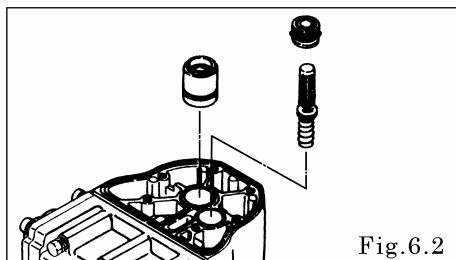

Fig.6.2
- Draw out the pilot valve and valve seat. [Fig.6.2]
- Draw out the throat bearing. [Fig.6.2]